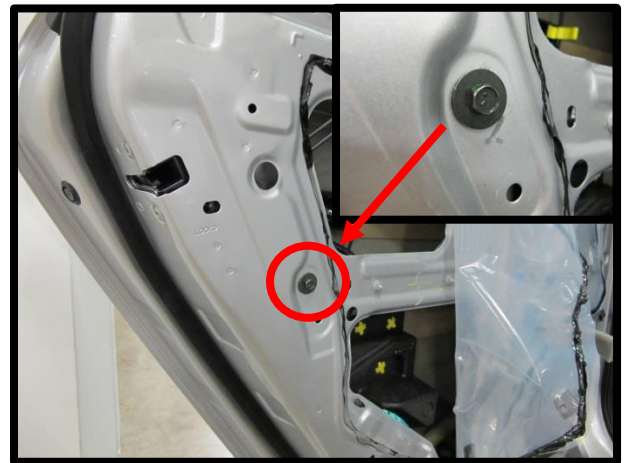

Figure 8
**Sentra Left Rear Door ONLY.** Refer to Figure 8.
- Remove the (1) 10 mm run channel retaining bolt.